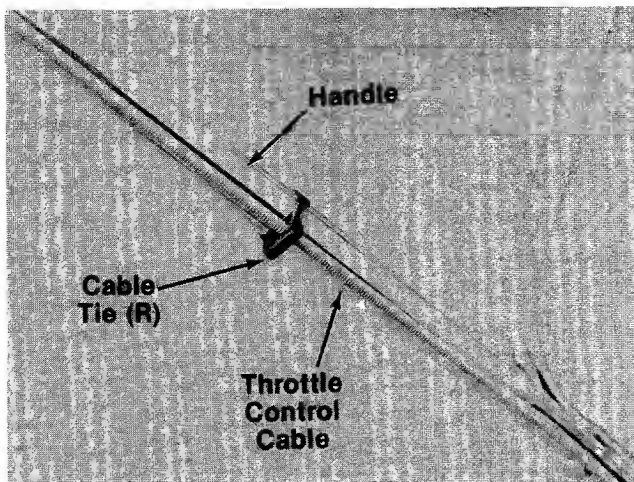

FIGURE 11.
5. Secure throttle control cable to handle with cable ties (R) provided. See figure 11.